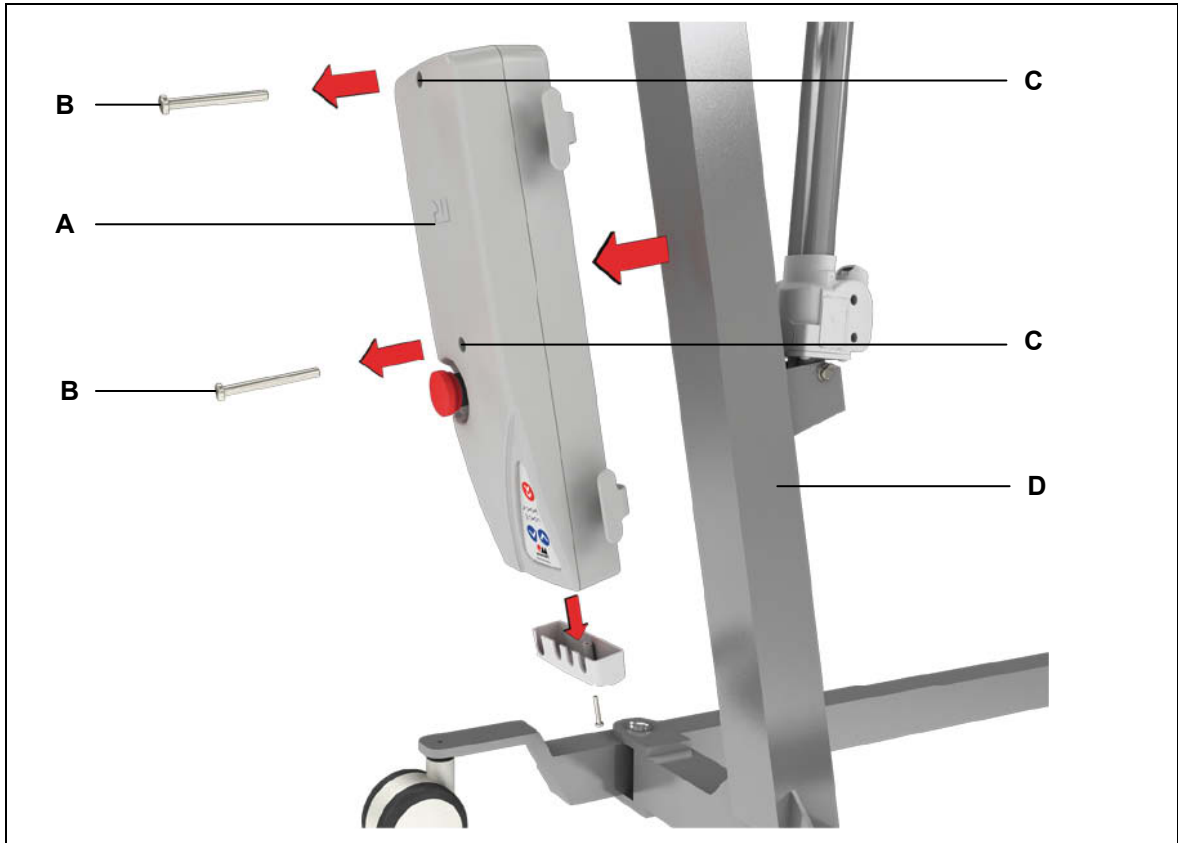

Figure 9 Installation onto the patient lifter (example)
- 2 Screw the ACCUCONTROL using the appropriate cylinder head screws (for example: M6x100-8.8 VZ) onto the patient lifter (refer to Figure 9).